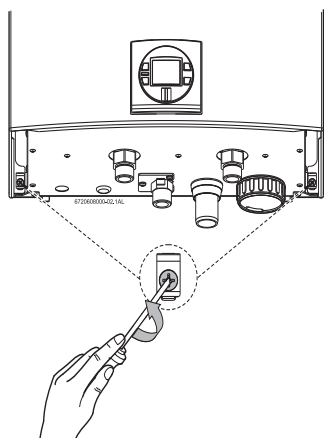

Fig. 3 Loosen the two screws
- Loosen the two Phillips head screws located on bottom rear of cover (see Fig. 3).